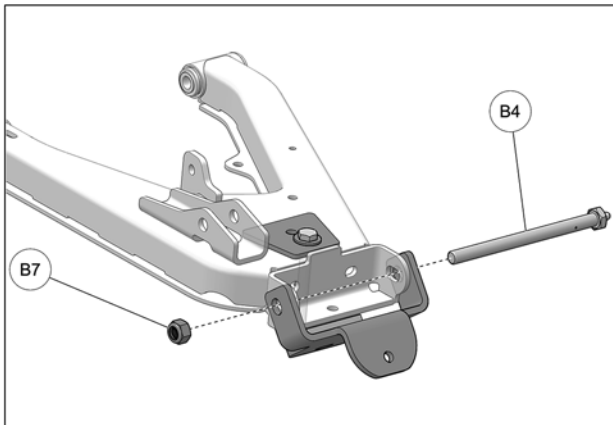

Fig. 6
6. Insert new M12x170mm bolt (B4) through anchor bracket, lower suspension arm and wheel knuckle. Thread nut (B7) on bolt without tightening it yet. See Fig. 6